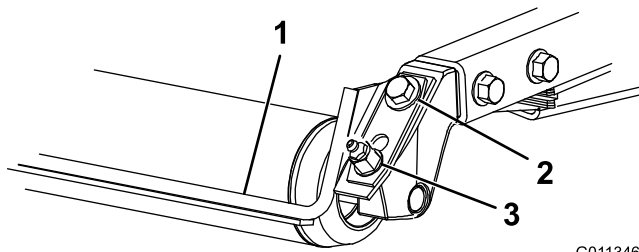

Figure 5
1. Loosen the grease fitting and the mounting screw (Figure 5).